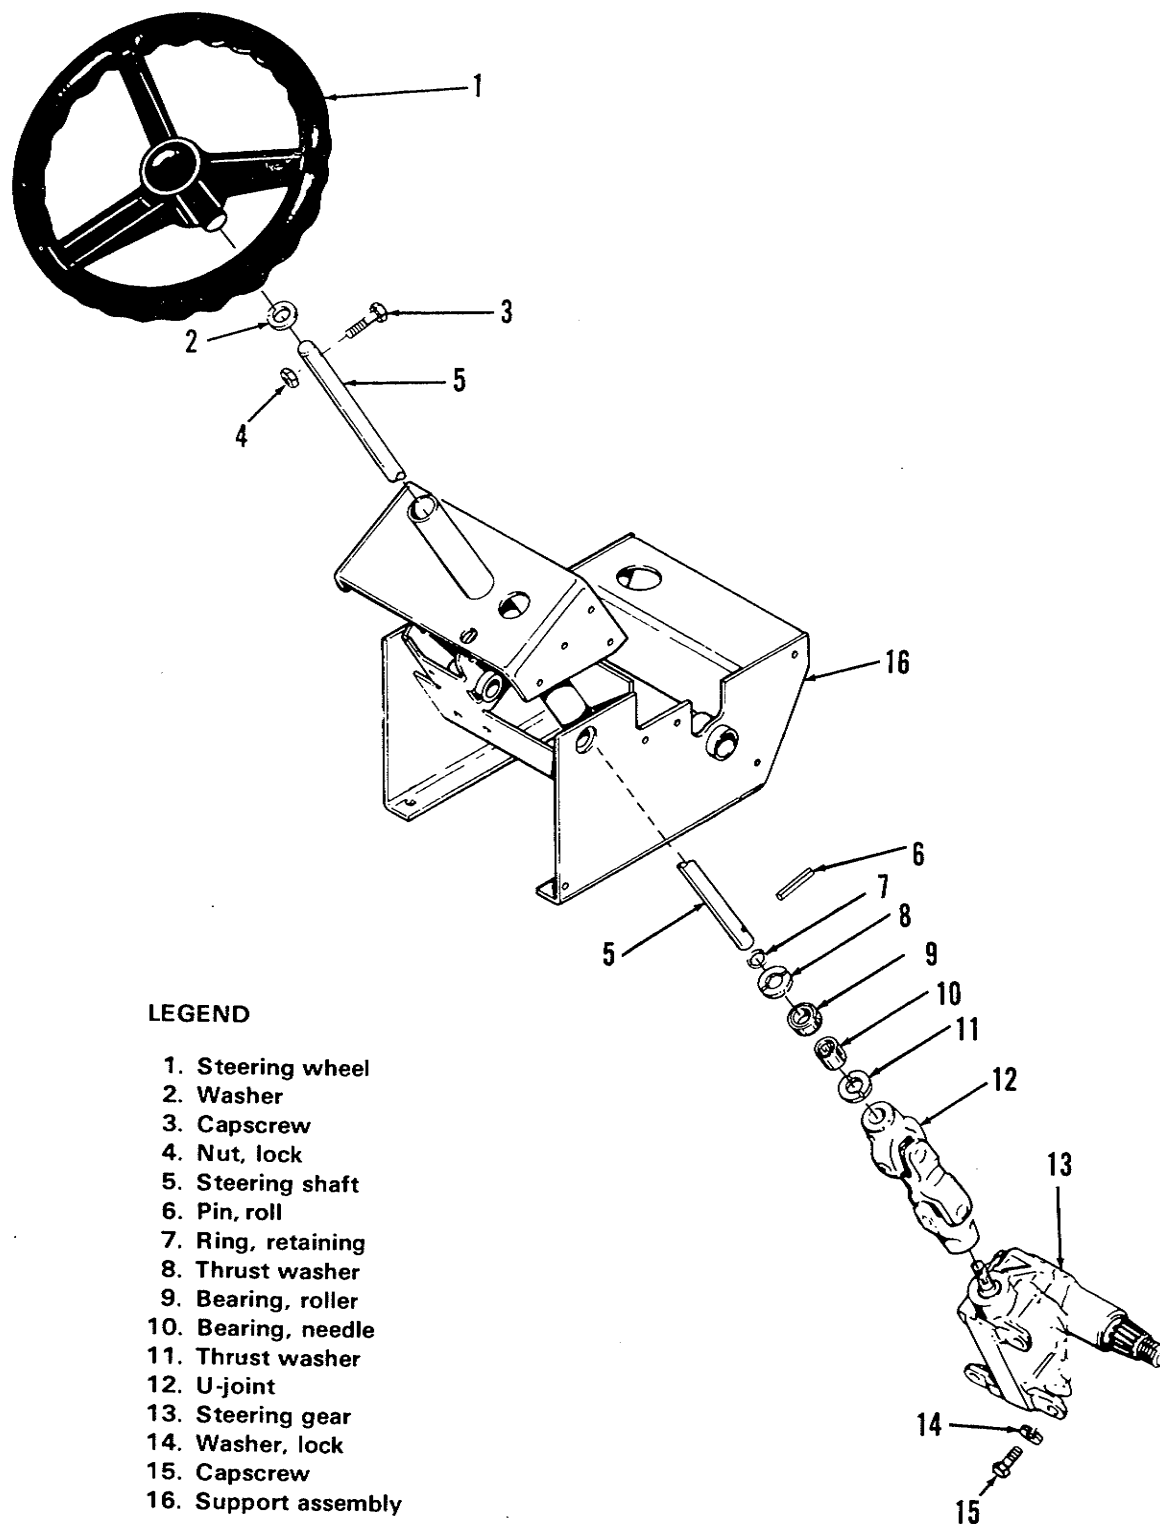

Figure 59. Steering Shaft Assembly
3. Install the steering shaft (Figure 59).
- a. Hand pack the bearings (9, 10) with general purpose automotive grease. Press them into the shaft support tube. The needle bearing (10) should be placed in the bottom of the shaft support tube and the needle bearing (9) in the top.
- b. Carefully insert the steering shaft into the support tube. Position the thrust washer (11) on the U-joint and insert the shaft into the U-joint aligning the pin holes. Install the roll pin (6).
- f. Install the rubber washer (2) and steering wheel (1) on the steering shaft. Secure the wheel to the shaft using the 5/16-18 x 1-1/4 inch long capscrew (3) and locknut (4).
1. Remove the steering shaft (Figure 59).
- a. Remove the steering wheel and its rubber washer (2) by removing the 5/16-18 x 1-1/4 inch long capscrew (3) and locknut (4) securing them to the steering shaft.
- d. Remove the roll pin (6) connecting the steering shaft to the U-joint (12). Hold the shaft in place and remove the retaining ring (7) and thrust washers (8, 11).